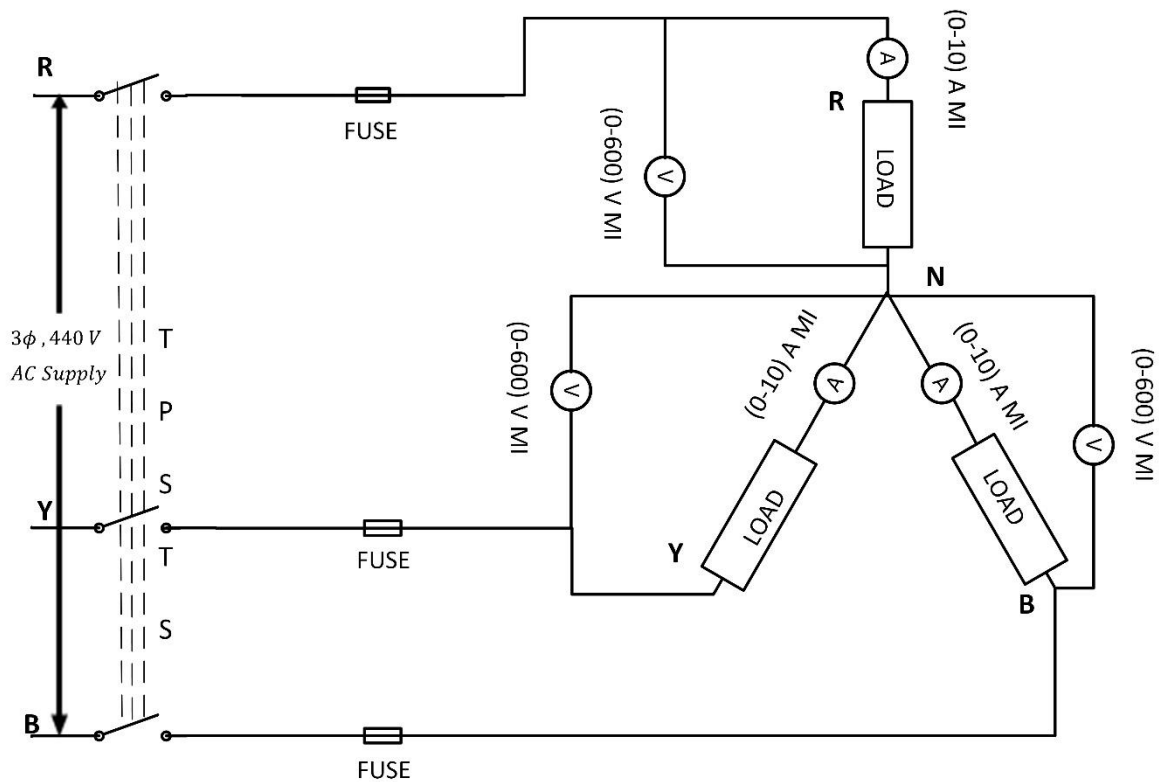

Figure 8.3 Star circuit
2. Connect the given rheostats in star configuration as shown in Figure 8.3 and measure the phase and line values of voltage and current